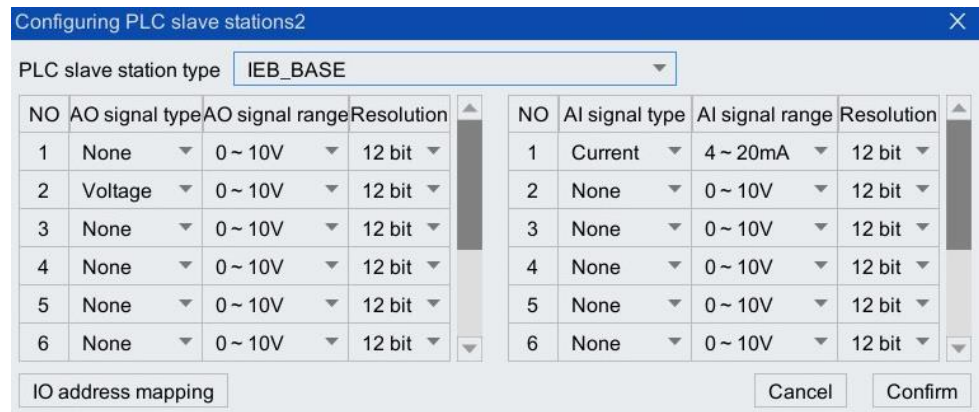
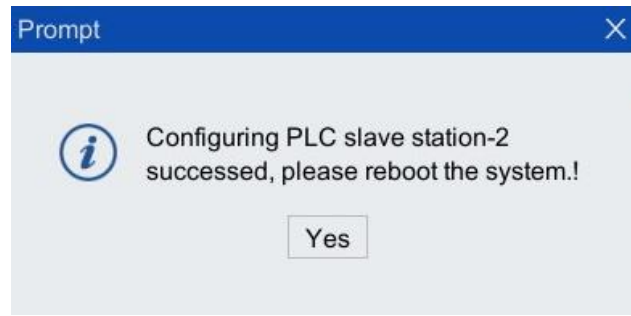

Figure 4-6 [Configure PLC slave-2] interface
Figure 4-7 Prompt dialog box
- Step3. In the [Configure PLC Slave-2] interface, select the matching "PLC slave type" based on the information in Table 4-1. Figure 4-6 shows the interface for selecting "IEB\_BASE".
- Step4. After completing the parameter configuration in Figure 4-6, click <Yes>, and a prompt dialog box will pop up (as shown in Figure 4-7). Click <Yes>, and after the power is turned off and restarted, the configuration takes effect.